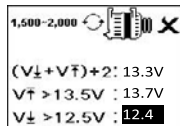

Fig.51
9. If either minimum or maximum charging volts are not within the voltage range limits then it will display one of the screens as below (Fig.51 & 52) and it will highlighted which prompt the user to check the charging system for the fault.